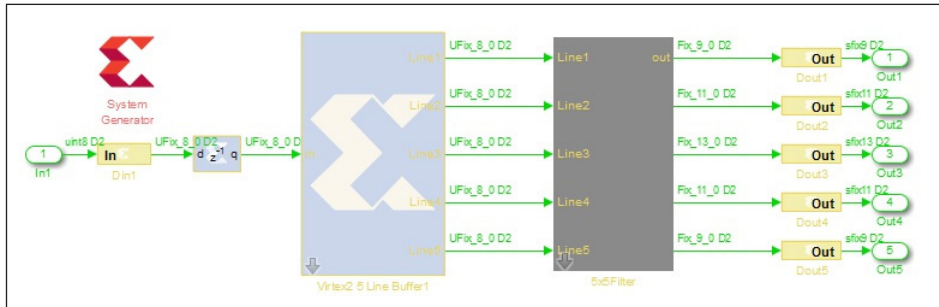

Figure 3. The image processing system's Xilinx System Generator subsystem.
3. Place a System Generator token at the top level of the subsystem (Figure 3). You can have a subsystem hierarchy in a Xilinx System Generator Subsystem, but there must be a System Generator token at the top level of the hierarchy.